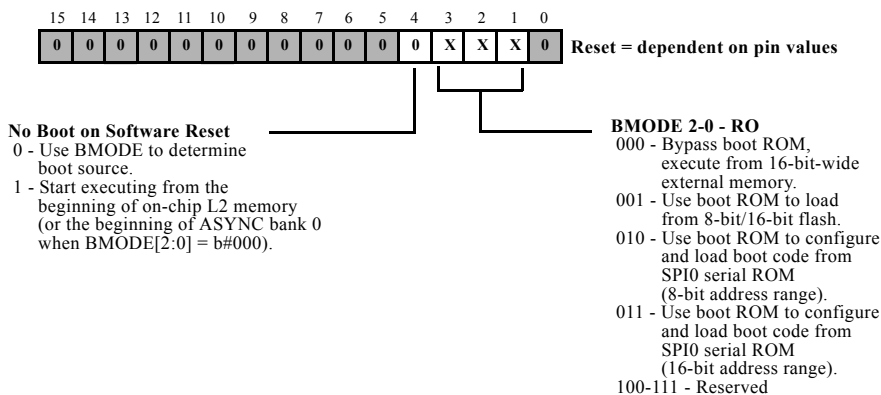

Figure 2-2. ADSP-BF535 Processors: SYSCR Register
At power-up, after a reset, the processor transitions into a boot mode sequence configured by the BMODE pins (Table 2-1). The BMODE pins are dedicated mode-control pins; that is, no other functions are performed by these pins. The pins can be read through bits in the system reset configuration register SYSCR (Figure 2-2).
2. Checks whether the `RESET` is a software reset and if so, whether to skip the entire boot sequence and jump to the start of L2 memory (`0xF000 0000`) for execution. The on-chip boot ROM does this by checking bit 4 of the system reset configuration register (`SYSCR`). If bit 4 is not set, the on-chip boot ROM performs the full boot sequence. If bit 4 is set, the on-chip boot ROM bypasses the full boot sequence and jumps to `0xF000 0000`. The register settings are shown in Figure 2-2.